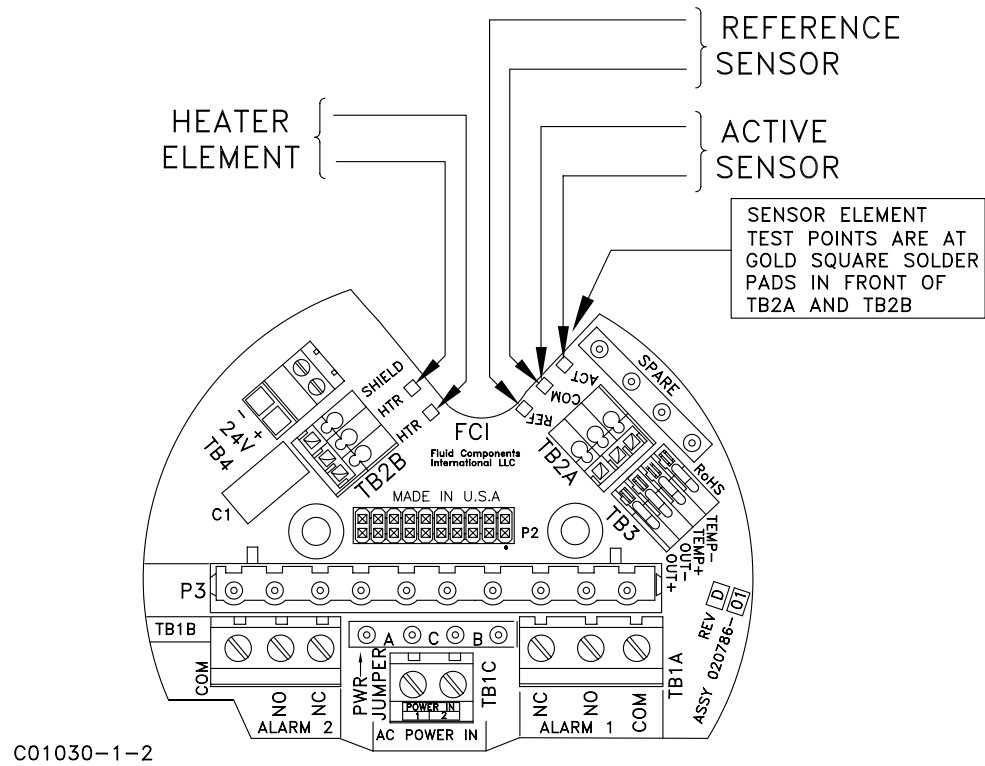

Figure 5-1 Terminal Board, Test Points
- See the troubleshooting chart in Figure 5-1 at the end of this section.
(See Fig. 5-1 for test points)